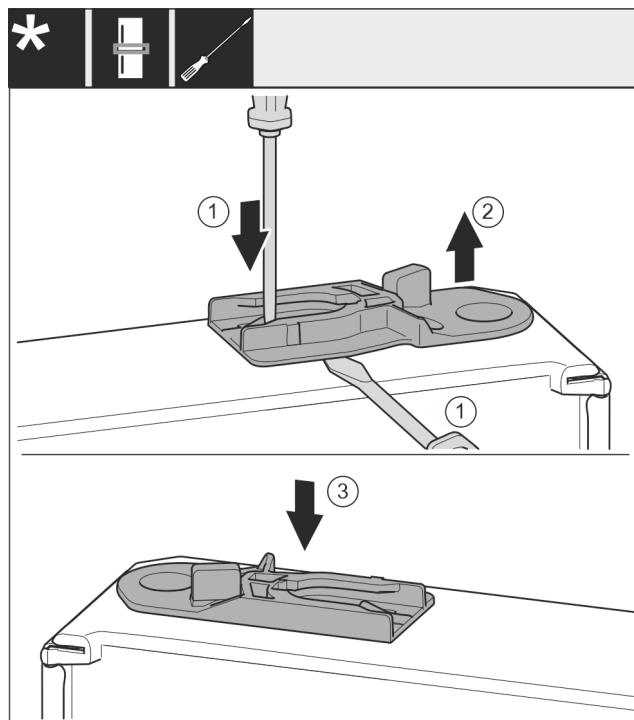

Fig. 38
- Pull out the guide bushing: Press the tab Fig. 38 (1) with the slotted screwdriver while running the slotted screwdriver under the guide bushing Fig. 38 (2) at the same time.
- Insert the guide bushing Fig. 38 (3) supplied in the scope of delivery on the other side of the housing.